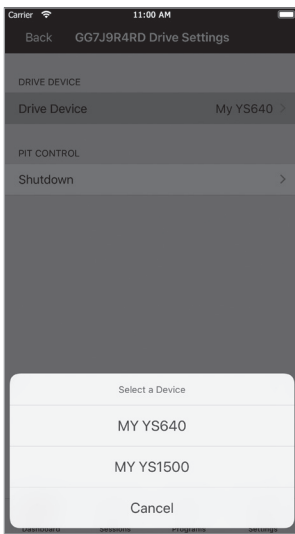
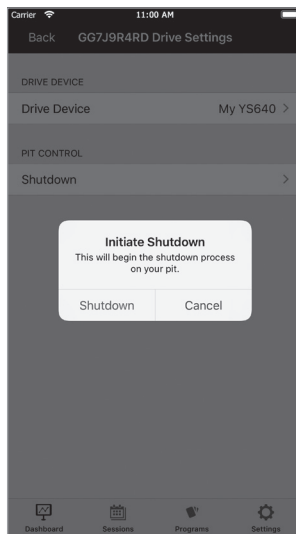

FIG 22
FIG 23
- Tapping the small wrench icon in the upper right of the grey bar will take you to a section that allows you to choose between multiple cookers (if you have more than one paired to your mobile device) (FIG 22) and also allows you to shut down your cooker. (FIG 23)